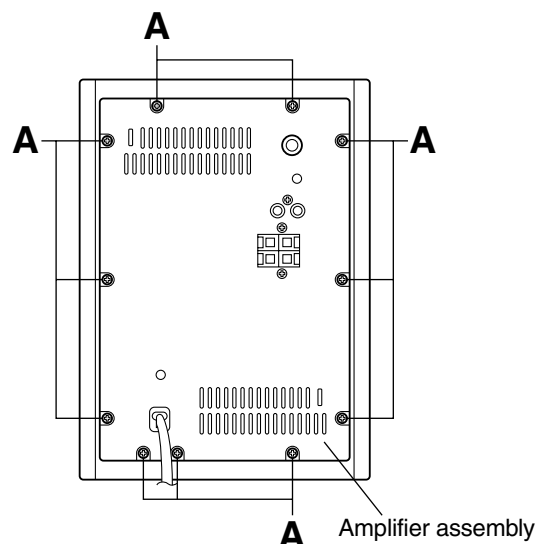

Fig.1
■ Removing the amplifier assembly (See Figs. 1 and 2.)